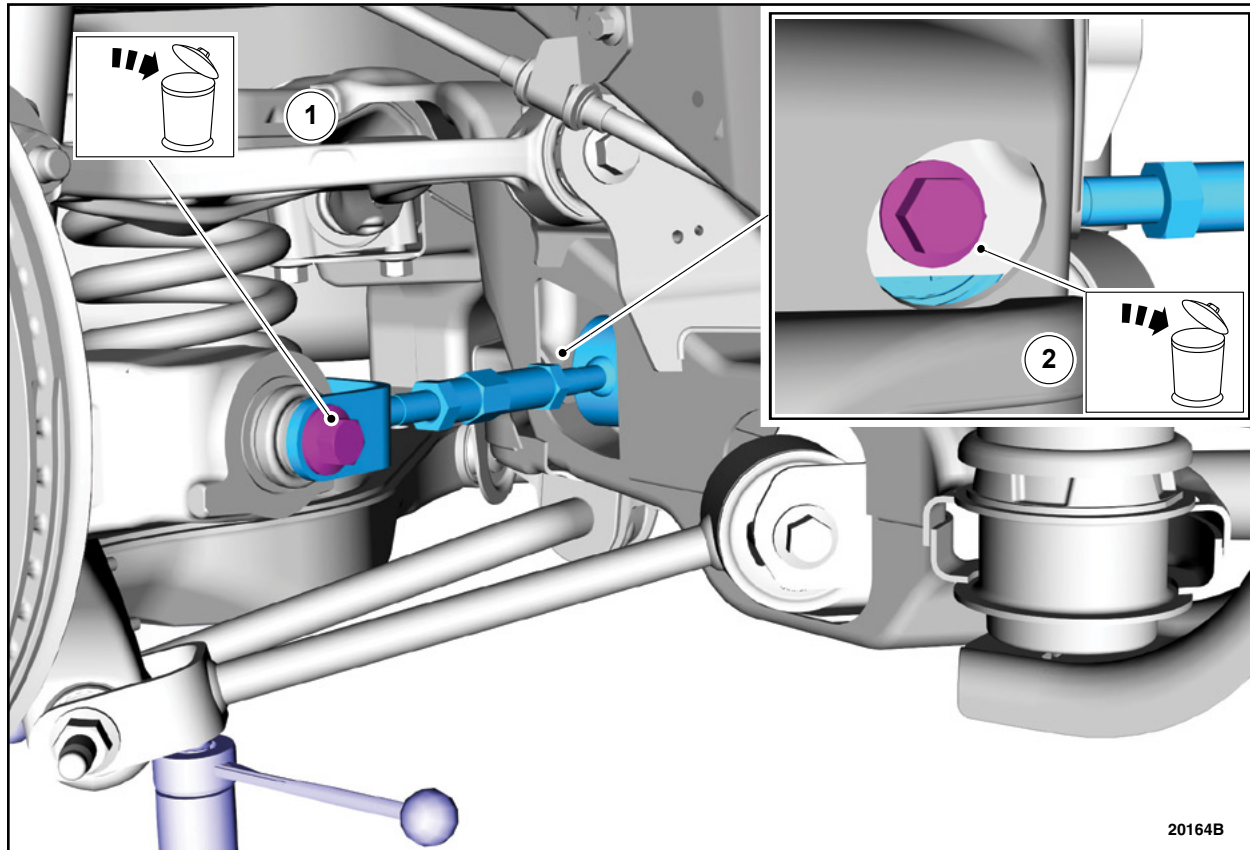

FIGURE 1
4. Remove and discard both rear toe links. See Figure 1.
5. Install the new toe links by reversing the removal procedure. See Figure 1.